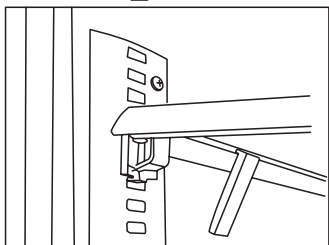

fig. 9C
4. Shelf brackets must be positioned at equal height to ensure the shelf is horizontal (fig. 9C).